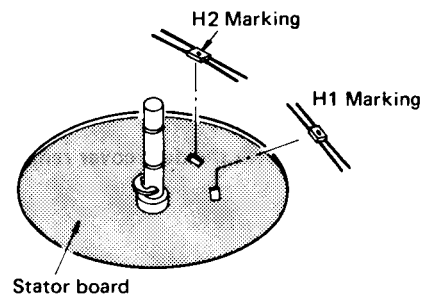

Fig. 8
* The Hall element should be installed with the marking side up as in Fig. 8.